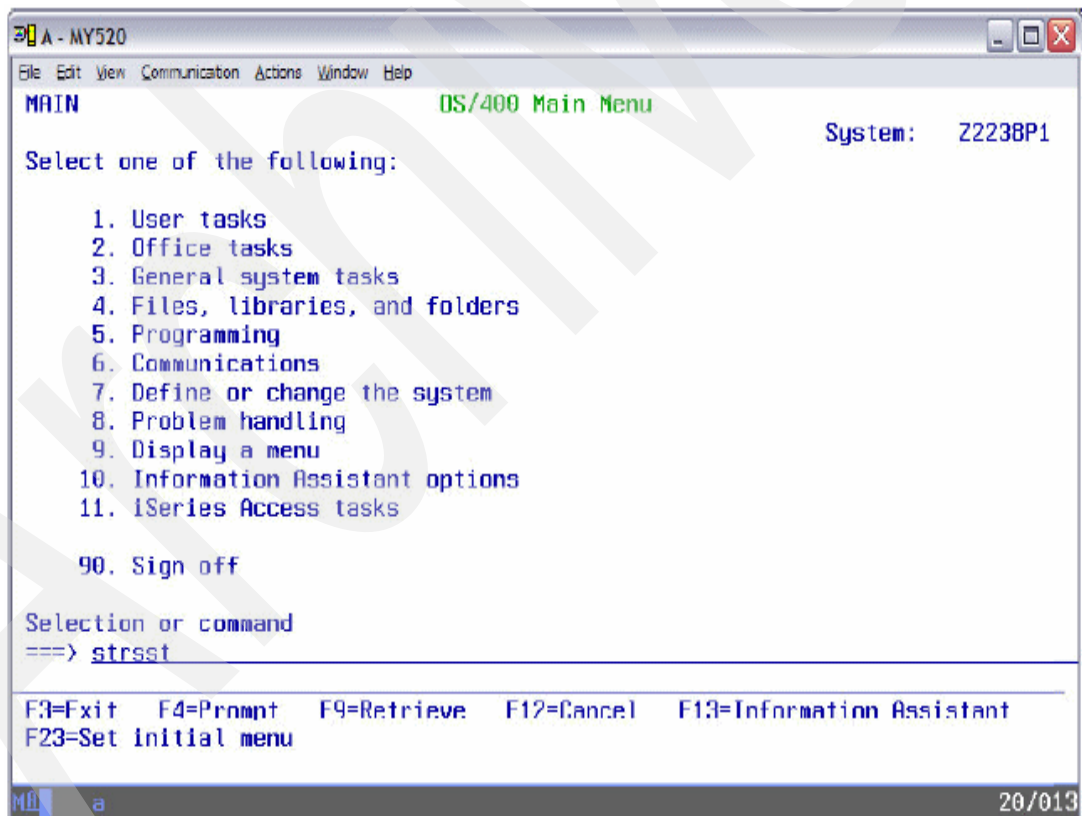

Figure 13-2 Main menu
1. From the Main menu or i5/OS command line, start the System Service tools by typing STRSST, as seen in Figure 13-2.